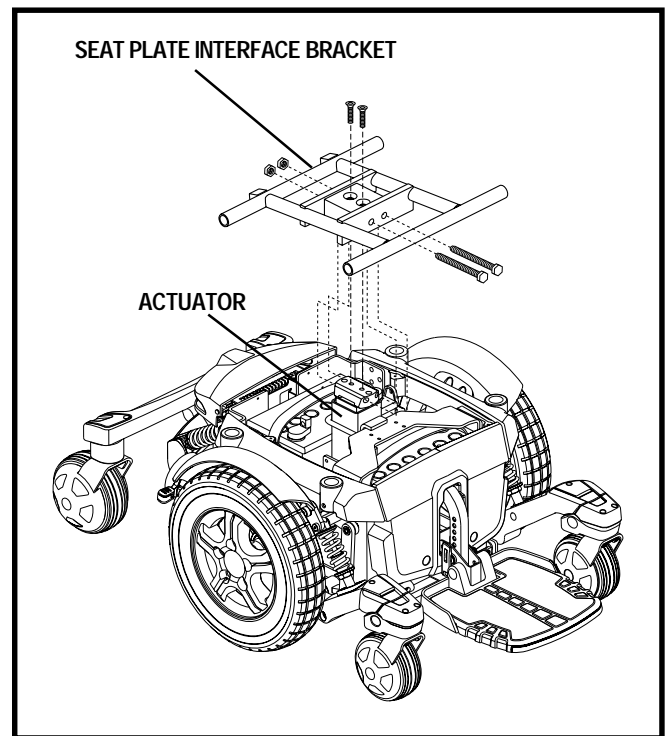

Figure 14. Power Seat Actuator
2. Secure the bracket to the actuator with the mounting hardware. See figure 14.